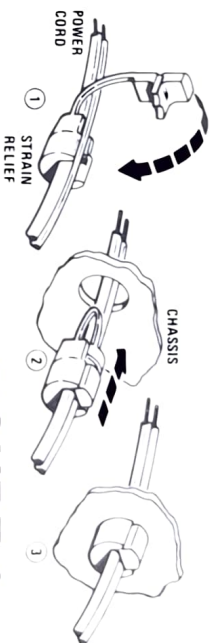

FIGURE 6
- Secure the Power Cord into the hole in the chassis behind the Transformer. Use the Strain Relief as shown in Figure 6. Let the ends of the wire extend about 4" past the Strain Relief.